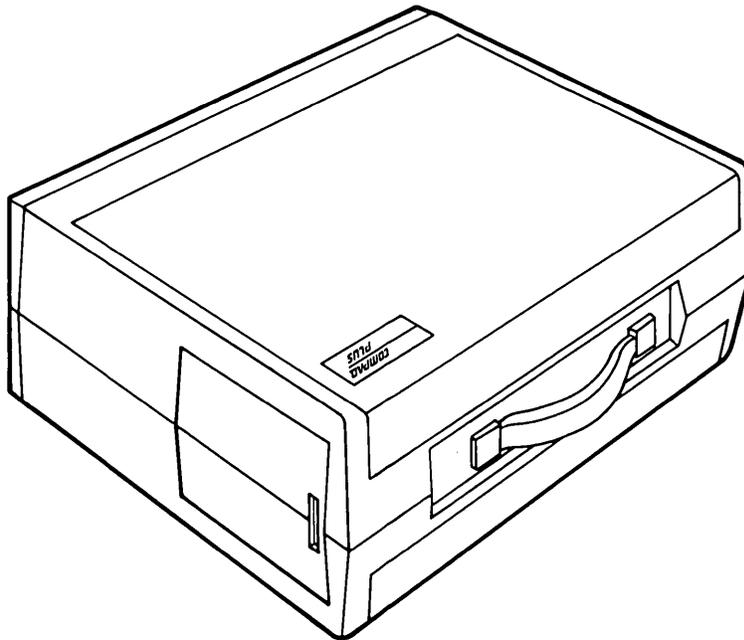

Figure 10-2. Computer On Work Surface.
- 1 Place the computer on a level surface, such as a table or workbench with the handle assembly facing you (see Figure 10-2).